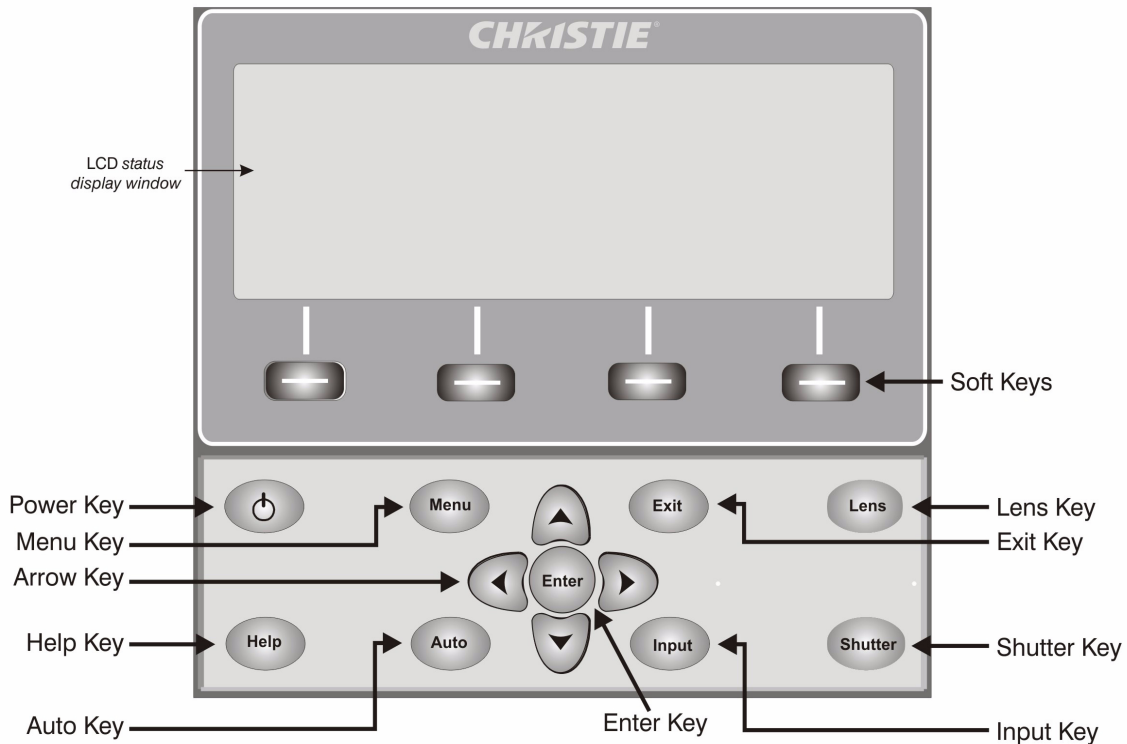

FIGURE 3-2 BUILT-IN KEYPAD
- **Built-in Keypad** located at the side of the projector, see Figure 3-2 Built-In Keypad.